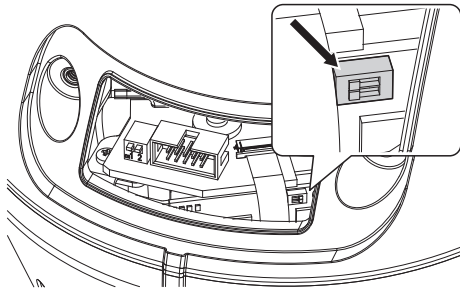

Fig. 103
Bring the dip-switches in the figure to OFF (Fig. 103, page 48).
- Bring the CPU switch on dip-switches to ON (Fig. 103, page 48).